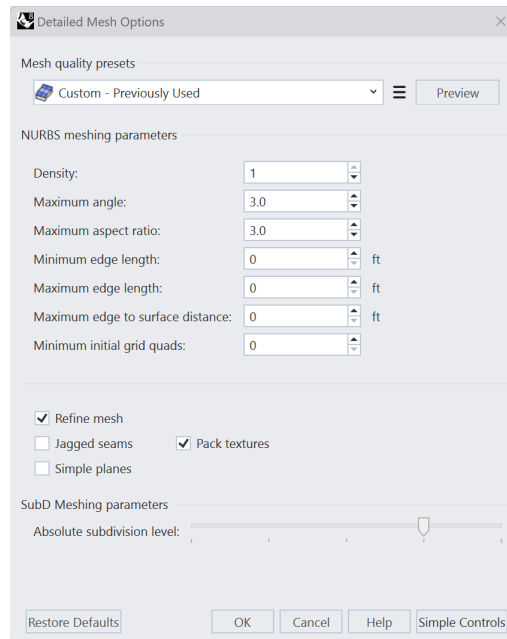

Figure 19: *Rhino* meshing dialog to create fine initial mesh.
5. Select all objects (**Ctrl+A**) and type the **_Mesh** command to create the initial mesh of all objects. Use detailed controls with the following settings to construct a fine initial mesh (Figure 19).
14. Mesh the polysurface using the **_Mesh** command with the same settings as in Figure 19. Note that the default mesh settings and *Simple Controls* can be used in this case, as there will be no issues with gaps or non-conformal faces (there is no need to have a highly detailed initial mesh).